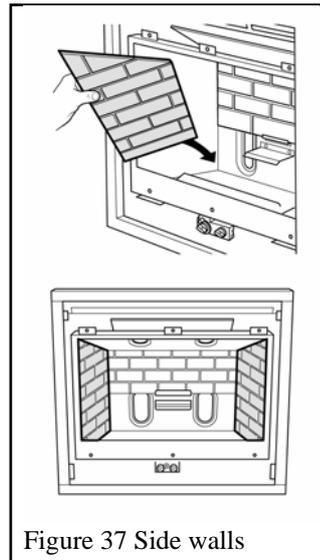

Figure 37 Side walls
2. Locate the side walls against the sides of the firebox. Make sure that they are behind the raised edges of the burner module base at the back corners. See figure 37.